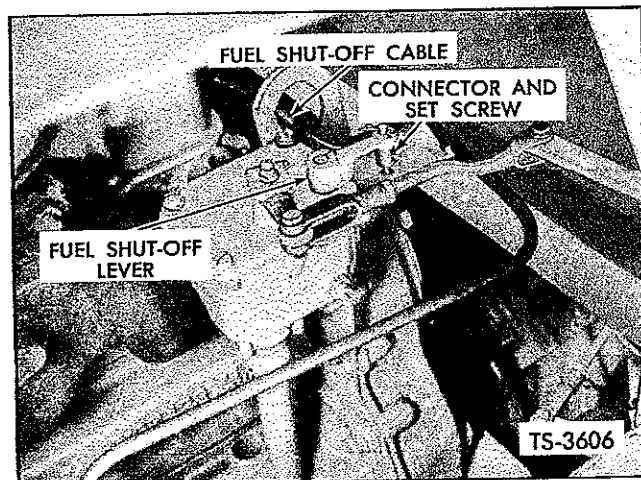

Fig. 32. Adjust Engine Fuel Shut-Off Control — G.M. Diesel
4. Increase cable tension as necessary at shut-off lever on governor assembly by loosening set screw from cable connector. See Figure 32. Retighten set screw.